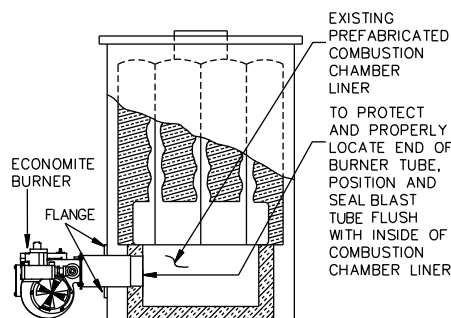

Figure 1: Dry Base Boiler with Combustion Chamber Liner
- Install mounting flange to the burner blast tube. The distance from the flange to the blast tube edge should be same as the gas utilization equipment wall thickness plus the flange gasket thickness. This will allow the burner blast tube to be flush with the inner chamber wall after the burner is installed. If the blast tube extends into the combustion chamber serious damage to the burner may occur, voiding the warranty, see Figure 1 & 2 for reference. For minimum combustion chamber dimensions see Table 1.
- The burner tube must be sealed air tight into the combustion chamber liner opening with refractory material as shown by Figures 1 and 2.
WARNING: Burner cabinet must be mounted in orientation shown in Figures 1 and 2. Any other mounting may cause a dangerous condition, and will void burner warranty and agency approvals. Non-standard arrangements may be available for some models; consult factory for details if required.